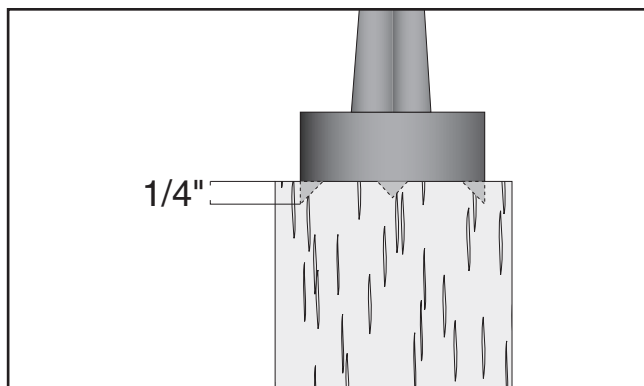

Figure 38. Spur center properly embedded.
6. Drive the spur center into the end center mark of the workpiece with a wood mallet to embed it at least 1/4" into the workpiece, as shown in **Figure 38**.